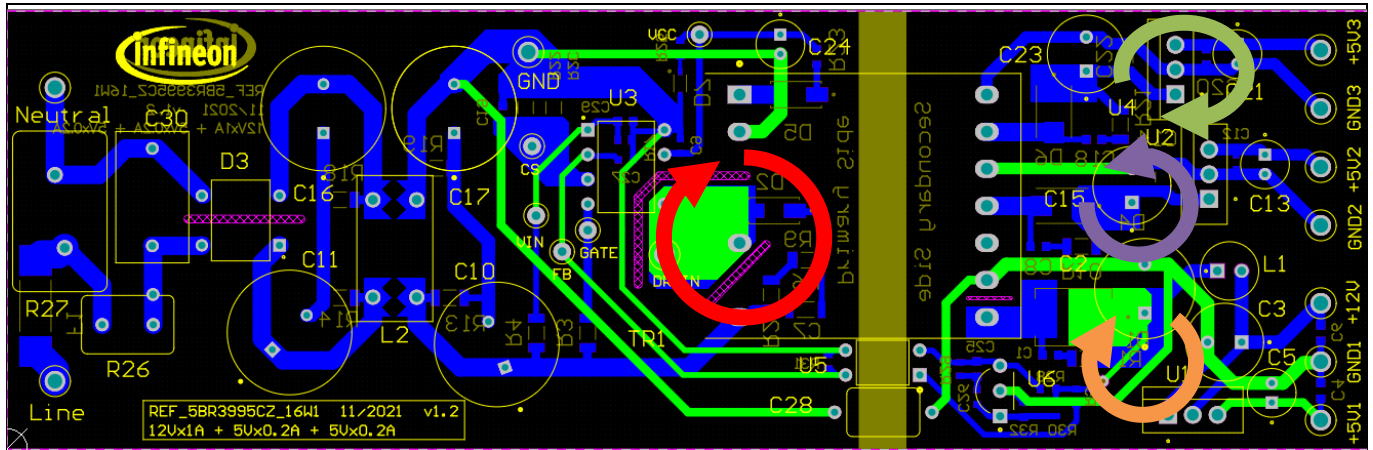

Figure 5 PCB layout tips
- The switching power loop needs to be as small as possible (see Figure 5). There are four power loops in the reference design; one on the HV side and three on the output side. The HV side loop starts from the bulk capacitor (C10) positive terminal, primary transformer winding (pin 7 and pin 5 of TR1), CoolSET™, CS resistors and back to the C17 negative terminal. The first output side loop (12 V output) starts at the transformer winding (pin 8 of TR1), output diode D1, output capacitor C2 and back to pin 9 of TR1. The second output side loop (8 V output) starts at the transformer winding (pin 11 of TR1), output diode D4, output capacitor C15 and back to pin 12 of TR1. The third output side loop (8 V output) starts at the transformer winding (pin 13 of TR1), output diode D6, output capacitor C23 and back to pin 14 of TR1.